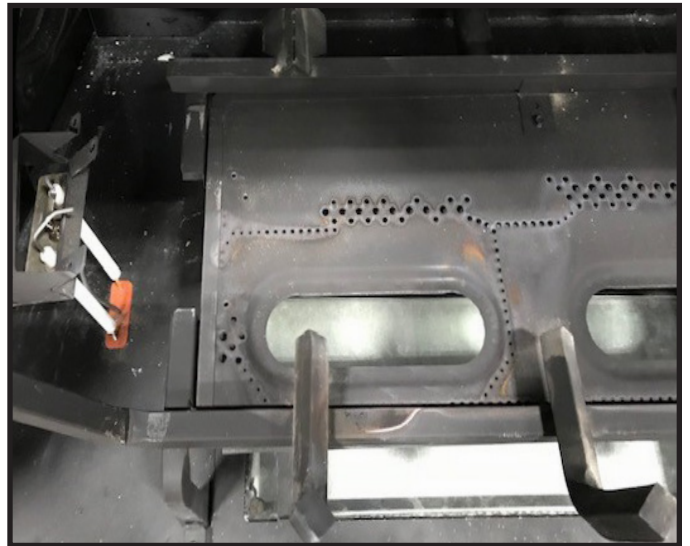

Figure 9 Pilot Assembly / Hood detached and moved away from Burner and Grate
9. Push the Pilot Assembly and Pilot Hood to the left away from the Burner and Grate. See Figure 9.